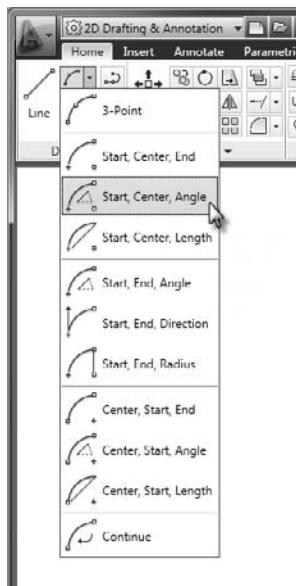

FIGURE 4.48 The expanded Arc menu
3. From the expanded Arc menu, choose Start, Center, Angle as shown in Figure 4.48.